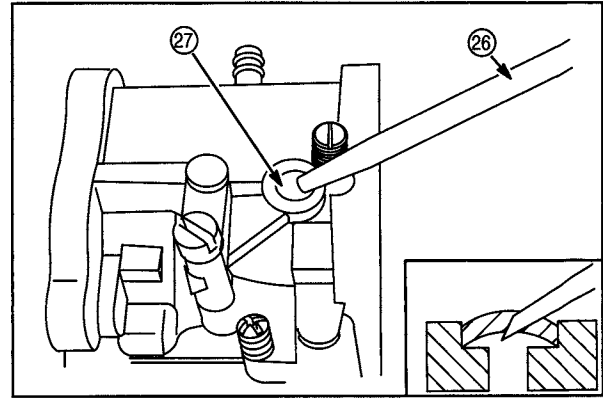

Fig. 32
15. Use a punch (26) to remove transitional hole weld plug (27) from top of carburetor, Fig. 32.